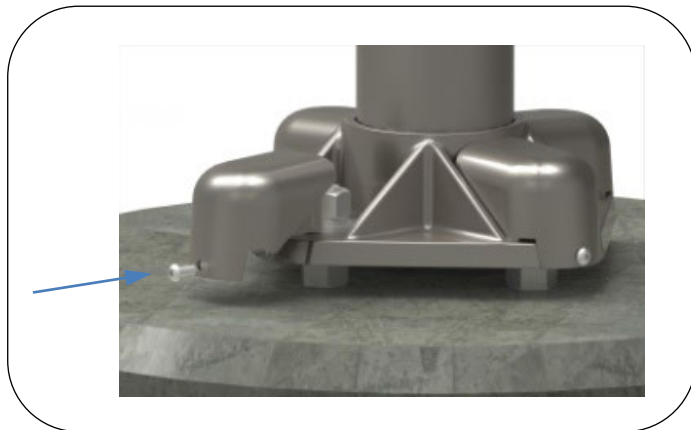

Fig. 7 – Install nut covers
1. Install nut covers (shipped with pole) as shown in Fig. 7.